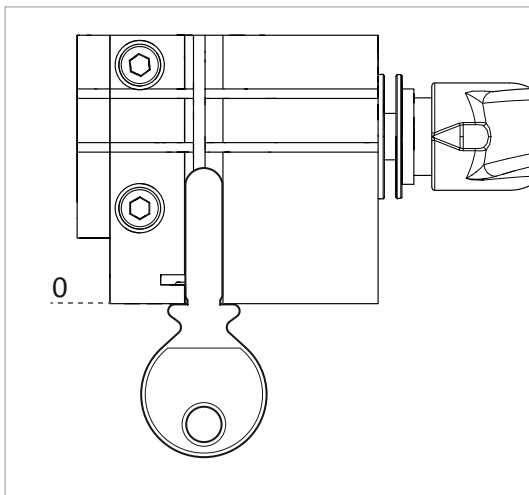

Fig. 25
- 1) Place the original key into the left-hand clamp of the machine making sure that the key stop is pressed against the clamp (Fig. 25) and lock it.